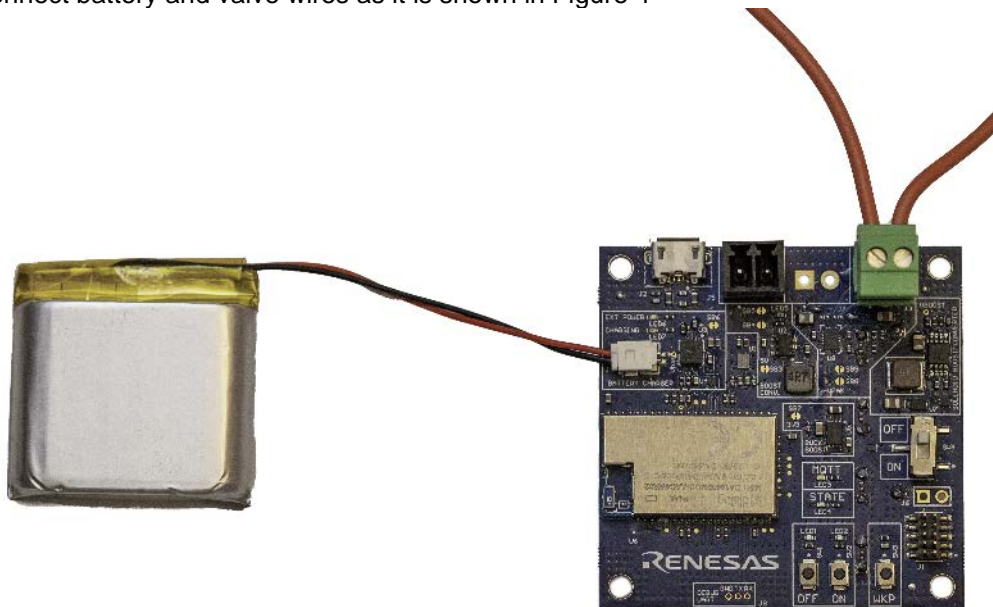

Figure 4. Battery and Valve wires connection
4. Connect battery and valve wires as it is shown in Figure 4